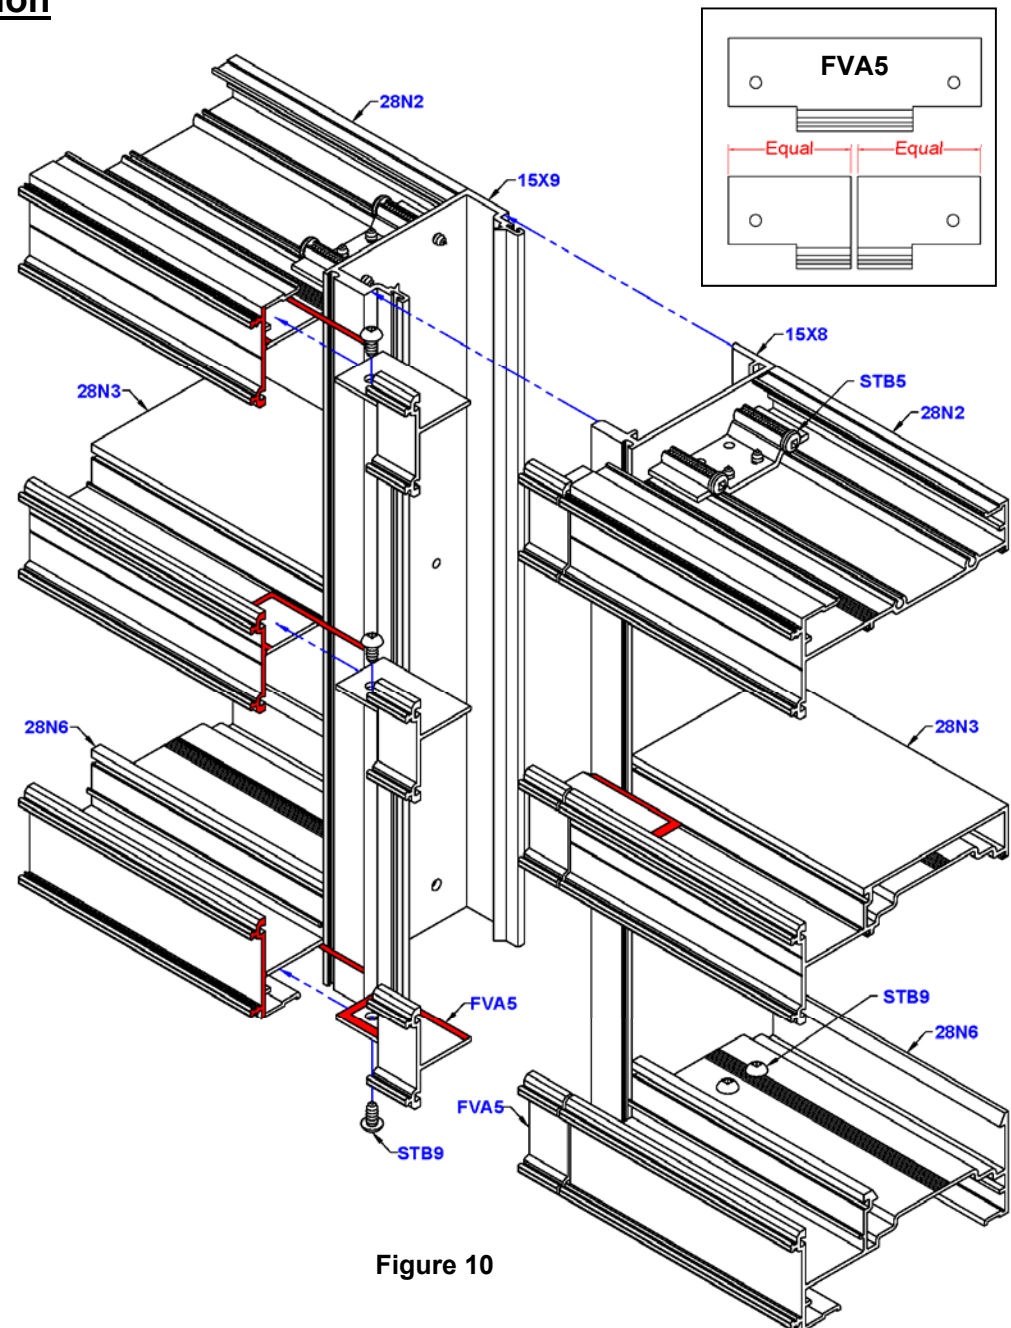

Figure 10
- Take the SSG bridge part FVA5 and cut it into 2 equal sections (see inset), removing approximately 1/8". Apply a generous bead of sealant to the areas on each half bridge as shown in figure 10. If a fixture isn't used to verify all parts are equal in size, keep halves of FVA5 together and use at one bridge point.